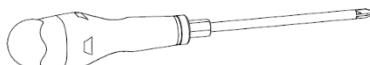

**Figure 71 - Humidifier placement on the equipment**
v) To complete the assembly of the equipment, insert the humidifier (7) and its cover (8) in the sequence shown in Figure 71 on top of the upper finishing face.